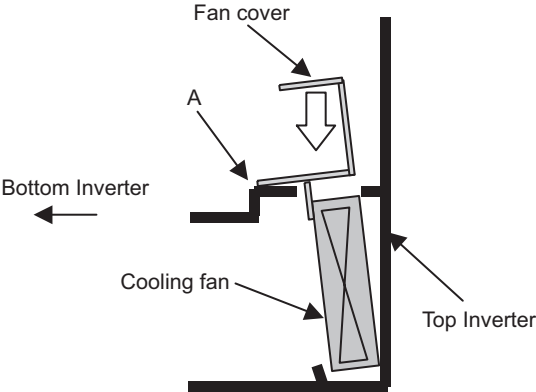

Fig 8.5
- 1. Tilt the fan cover toward the bottom of the Inverter as shown in Fig 8.5 and insert it to the mounting hole until it meets with A.